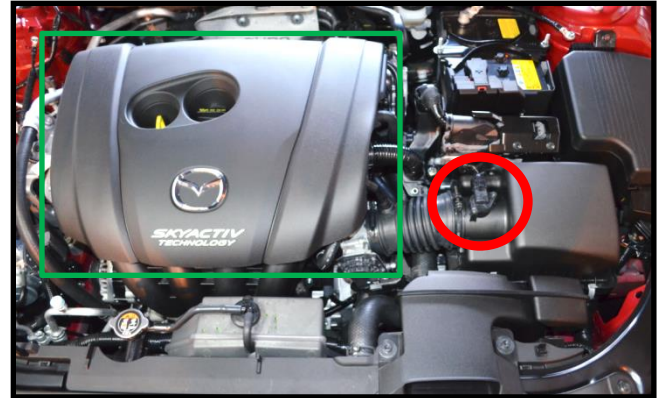
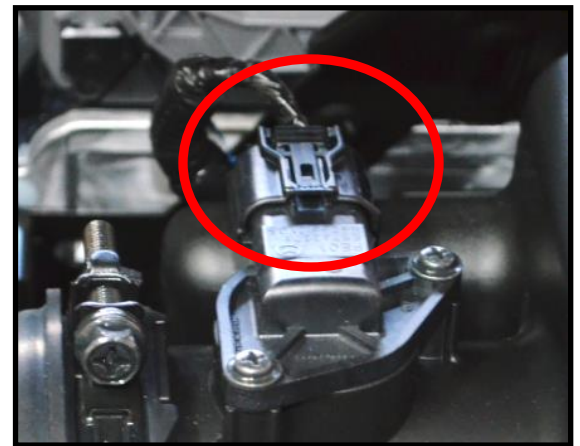

Figure 1a
Figure 1b
- a) **Remove Engine Cover** by pulling up on it. There are no screws that hold it down. This will help when loosening the intake clamp (shown in green square Figure 1a).
- b) **Unplug MAF sensor** (shown in Figure 1a with a red circle and in Figure 1b close up). Press down on the latch and the sensor will unplug.